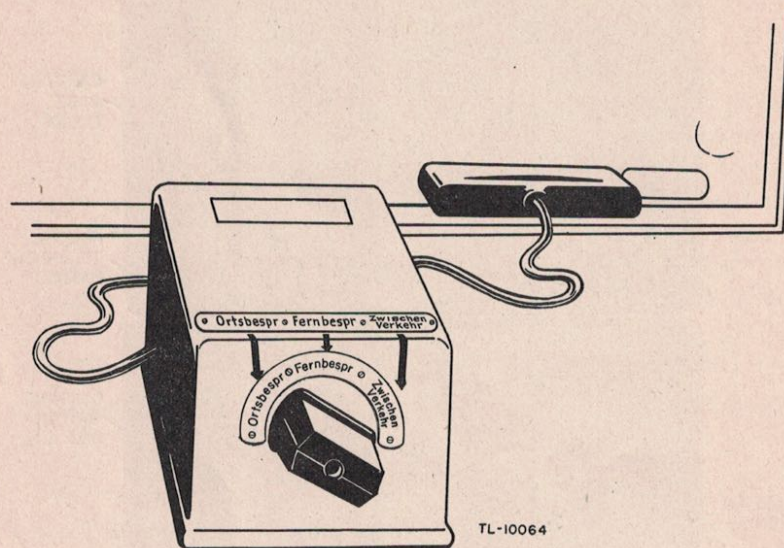

Figure 7. Control switch box for remote operation of German radio sets Torn. Fu. b1. and Torn. Fu. f.
c. **Operation.** (1) Set up the equipment as indicated in paragraphs 2e and 5b.
(2) The control switch box is equipped with a switch which selects any one of three types of operation (fig. 7).
(3) For operation of the transmitter from the transmitter location, place the selector switch of the control switch box on **Ortsbespr.** (local) position. In this position, the local transmitter operator puts the transmitter carrier on when he presses his microphone